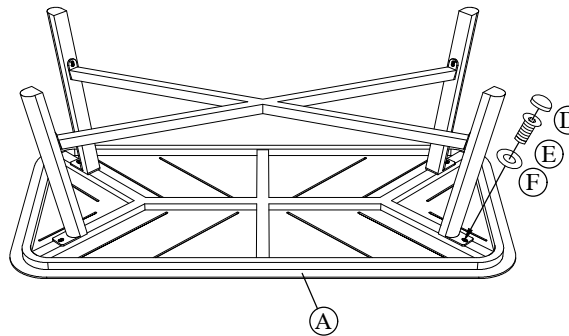

Figure 2
Step 3: Place the table top upside down on a flat, non-abrasive surface. Attach the complete base to the table top by using 1/4"x18 mm bolts(E) and Ø6.5x1.0 mm washers(F) as shown in Figure 2. Guide the bolts through the holes in the table legs, into the pre-drilled holes in the table top. **Hand tighten only.** Repeat for the other sides.